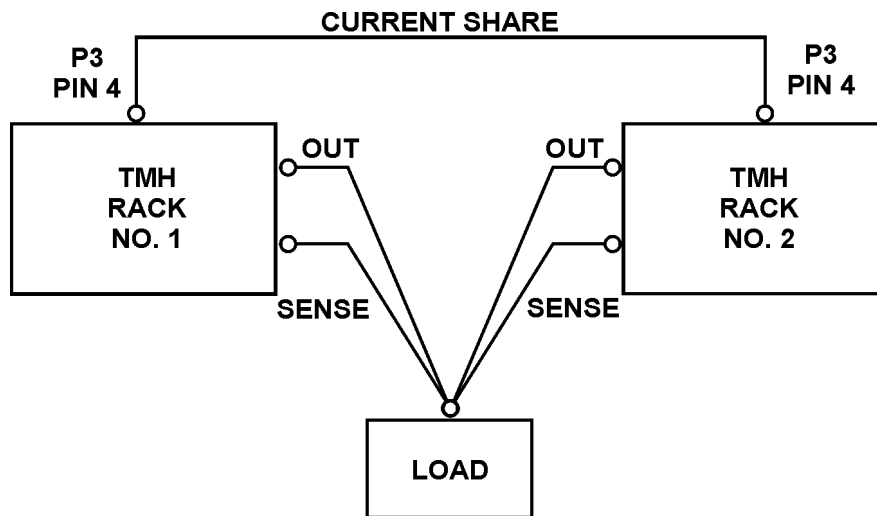

Figure 8. Parallel Connection of TMH Racks.
14.3 Multiple Parallel Rack Operation. Multiple racks can also be operated in parallel by interconnecting their current share terminals (P3 Pin 4). The total power can be expanded by several times. In this case N+1 redundant operation is achieved by reserving one module of the total for redundancy. For example, if two full 19-inch racks are employed with a total of six modules, then 5+1 redundancy is achieved and the full load must be able to be carried by the output of five modules. In such applications each set of remote sense wires must be separately connected to the point of load. See Figure 8 for a simplified illustration of two TMH racks connected in parallel.